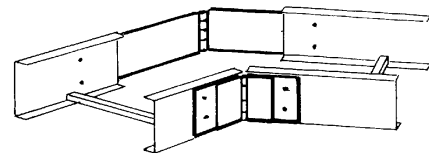

Figure 4.15
4.3.4 Horizontal Adjustable Splice Plates (See Figure 4.15.)